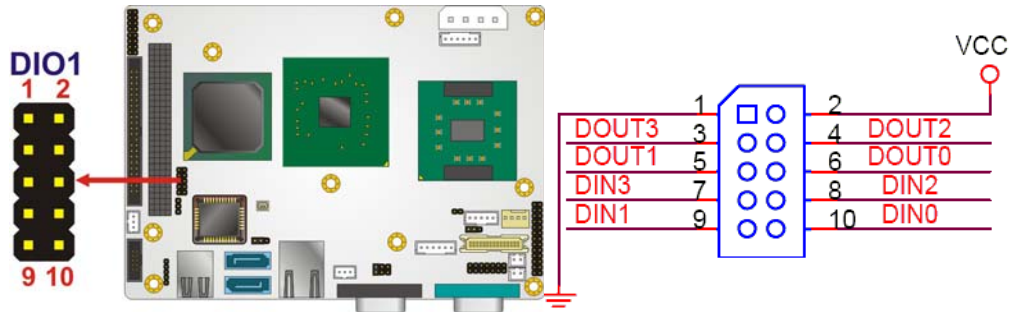

Figure 4-8: Digital I/O Connector Locations
- CN Location:** See **Figure 4-8**